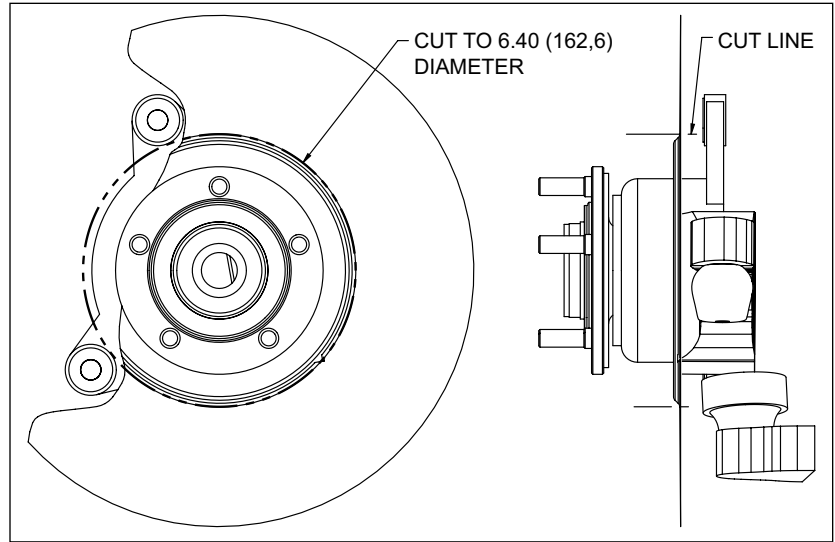

Figure 3. Dust Shield Modifications
- The dust shield needs to be modified as shown in Figure 3 to clear the new Wilwood rotor. **NOTE:** *It is recommended that the dust shield be removed before modification, and the modifications be performed by a qualified machine shop.*